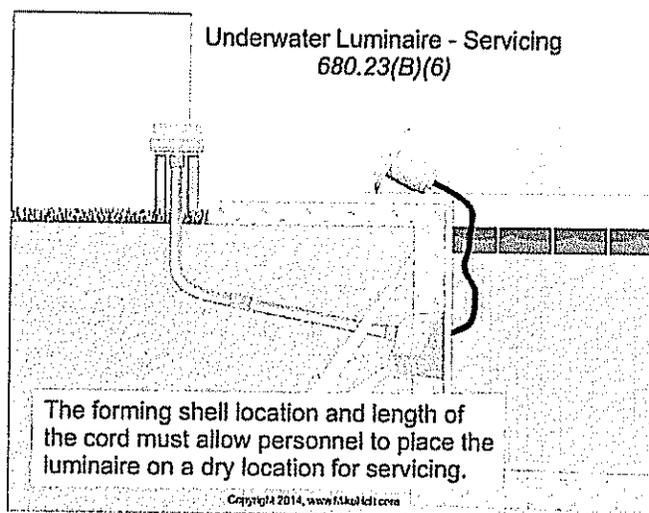

Figure 680-32
**(6) Servicing.** The forming shell location and length of the cord in the forming shell must allow for personnel to place the removed luminaire on the deck or other dry location for maintenance. The luminaire maintenance location must be accessible without entering or going in the pool water. Figure 680-32